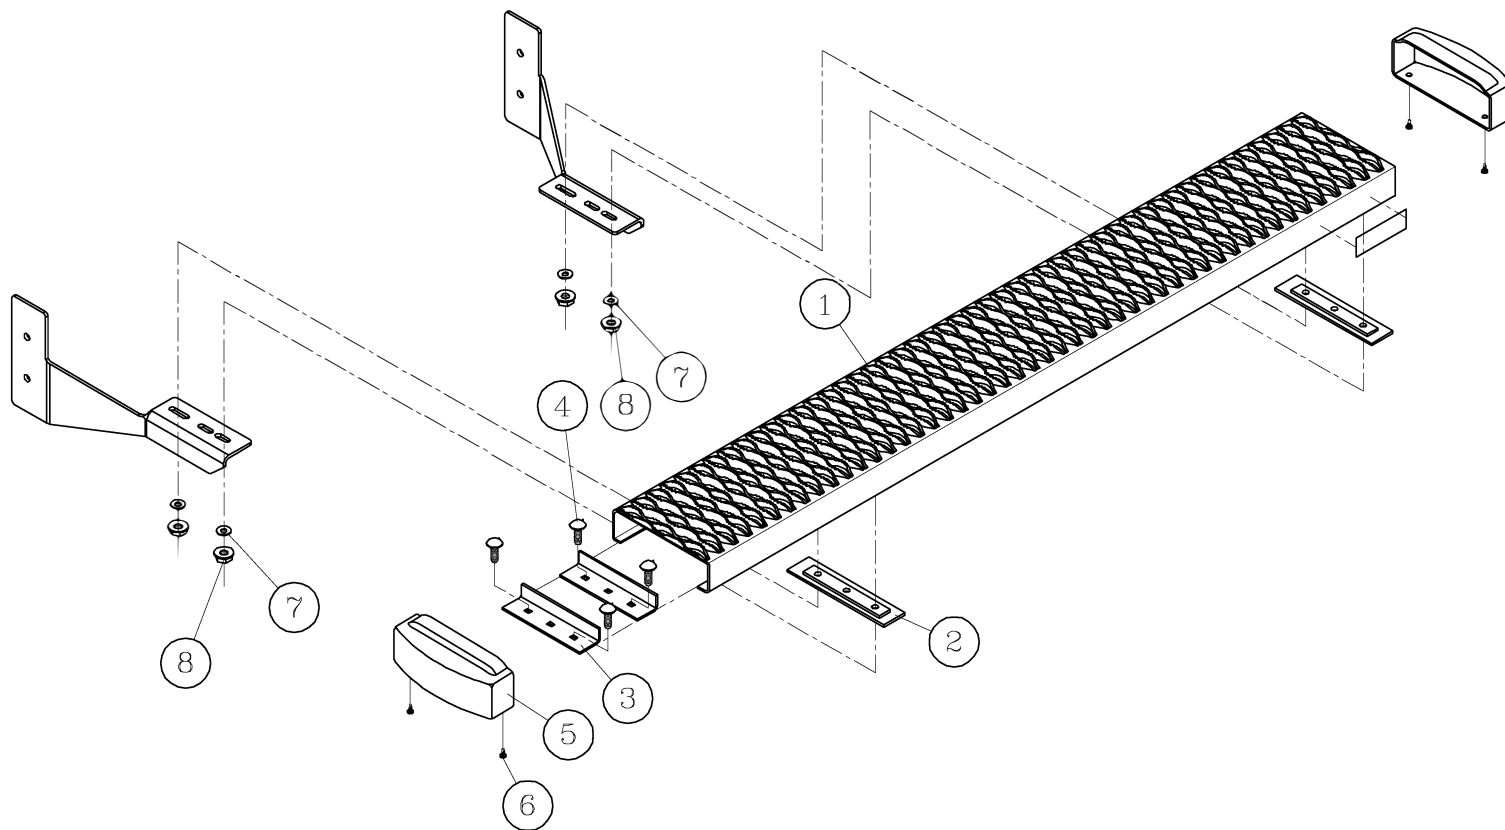

FIG. 1
2. ON THE LEFT SIDE OF THE VEHICLE REMOVE THE TWO FACTORY BOLTS ON THE OUTSIDE OF THE REAR FRAME RAILS AS SHOWN IN FIGURE 1, THESE WILL BE REUSED.